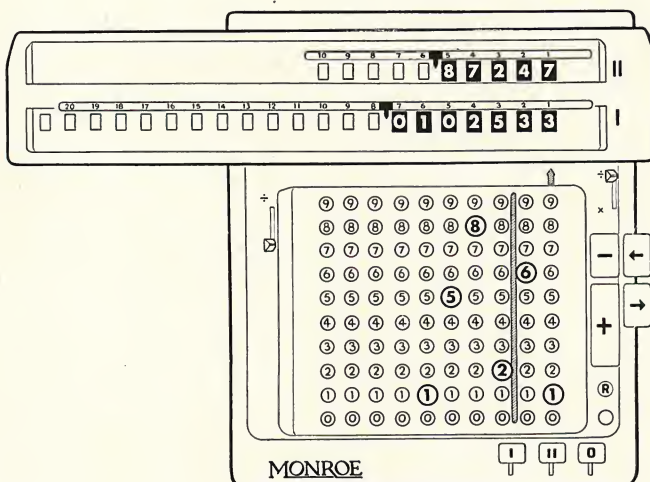

Figure 20
Step 3—Now the percentage of increase is figured. Shift the carriage one place to the left and divide the amount in the lower dials by the amount on the keyboard, pushing the automatic divide lever. The percentage of increase appears in the upper dials, .87247 or 87.25% (Figure 20).